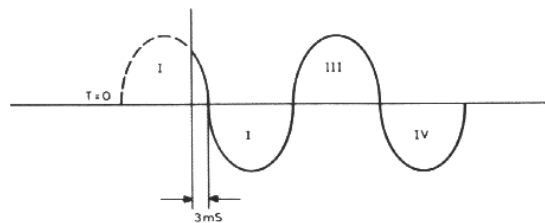

Fig.25 Typical Trace for a 0.02 Second Exposure
- D Take a radiography exposure and check that the trace indicated on the CRO corresponds with the specimen trace reproduced below, Fig 25.